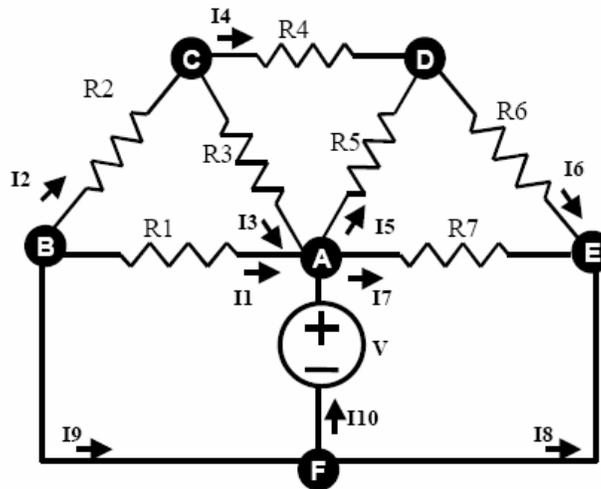

Figure 3-1
The node-voltage method permits the description of a circuit in terms of  $n_e - 1$  equations. Figure 3-1 shows a circuit suitable for the analysis with the node-voltage method. In this circuit three essential nodes can be identified ( $n_e = 3$ ), therefore two ( $n_e - 1$ ) node-voltage equations describe the circuit. To select the set of  $n_e - 1$  nodes to perform the analysis, one of the essential nodes is selected as a
- a. Assemble the circuit in Figure 3-1 with the component values shown in Table 3-1.